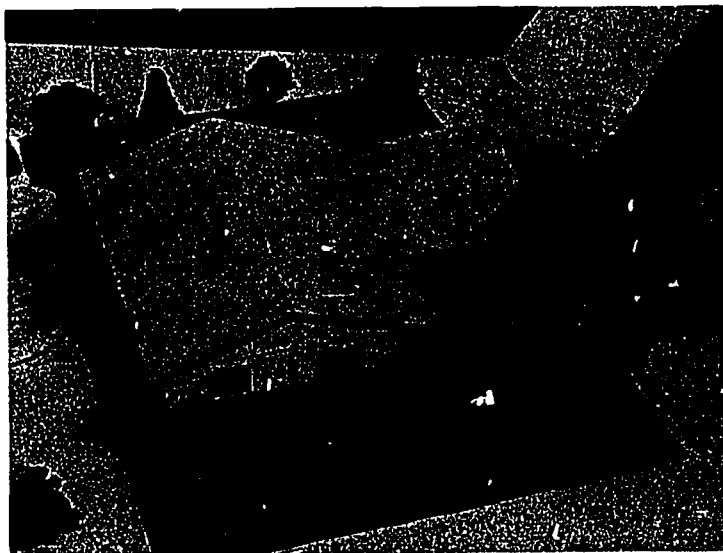

Fig. 90C-1. Setting Shrubs in Place
4. Glue shrubs in place. See Fig. 90C-1.
6. Do other landscape work as time permits. See Fig. 90C-2.